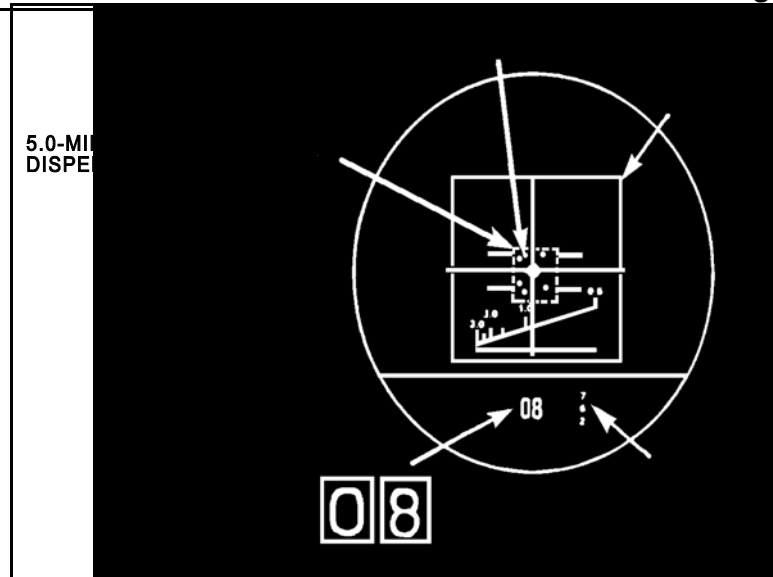

Figure 3. Rounds on aiming point.
a. If the burst cluster strikes around the center of the target, the machine is zeroed (Figure 3, page 3-170).